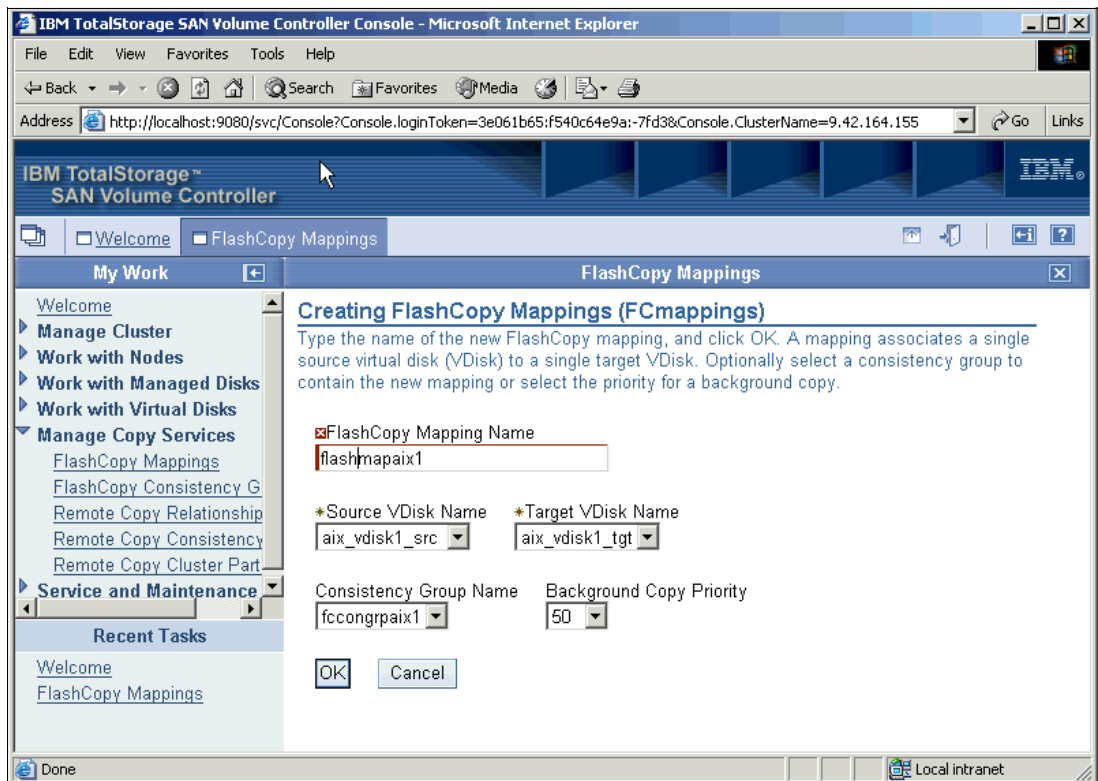

Figure 10-15 Creating mapping “flashmapaix1”
3. As shown in Figure 10-15, follow these steps: